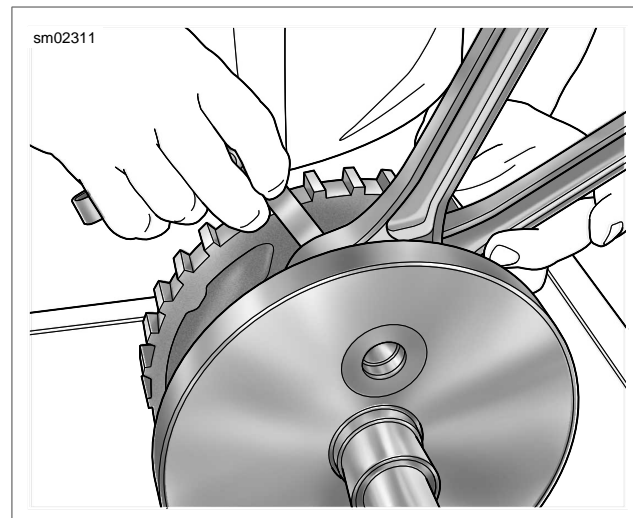

Figure 3-146. Connecting Rod Side Play
3. See Figure 3-146. Check connecting rod side play.